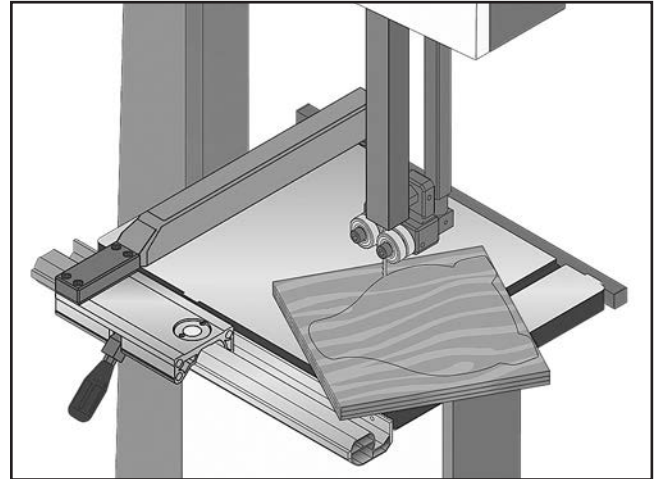

Figure 80. Example of stack cutting.
5. Cut the stack of pieces as though you were cutting a single piece. Follow your layout line with the blade kerf on the waste side of your line, as shown in **Figure 80**.